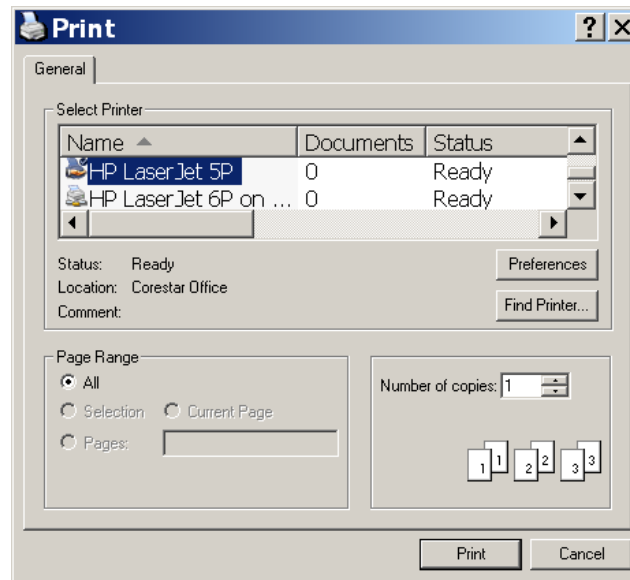

Figure 7. Print Dialog
- o **File | Print** (Ctrl+P) displays a typical Windows **Print** dialog as shown in Figure 7. Select the desired printer, click the **Preferences** button to modify the printer's parameters as desired, then click **Print** to print; otherwise, click **Cancel**.